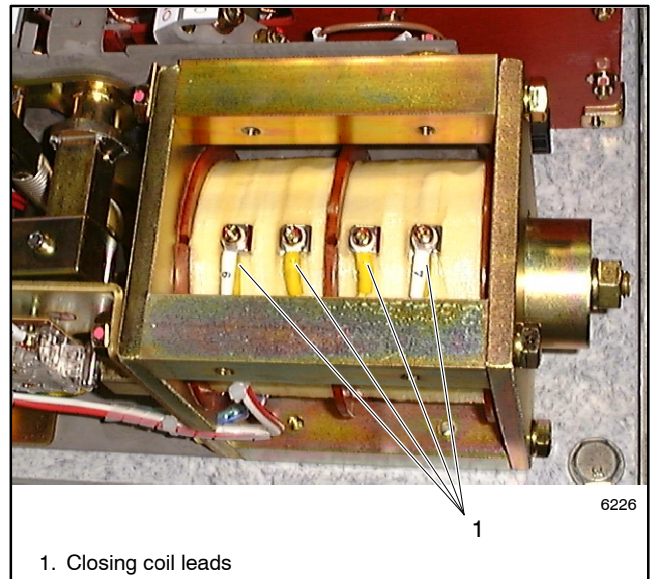

Figure 8-30 Closing Coil Connections
3. Note the connections shown in Figure 8-30 and disconnect the closing coil leads at four locations.
- d. Reconnect four leads shown in Figure 8-30.